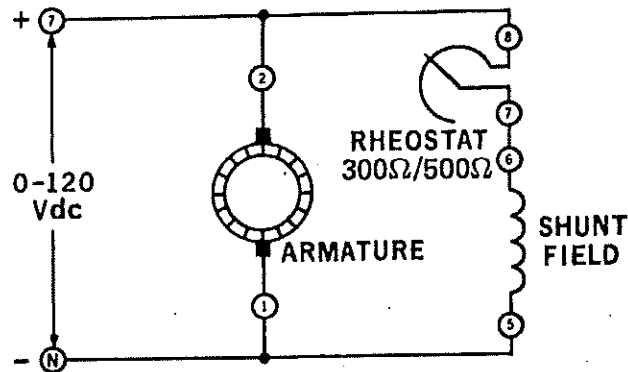

Figure 3-4.
- 12. Connect the circuit shown in Figure 3-4. Notice that the rheostat is in series with the shunt field, and that this combination is in parallel with the armature, across the input voltage.
- 16. Interchange the connection leads to the power supply. Your circuit should be the same as the one shown in Figure 3-4. Now reverse the connections to the armature only.